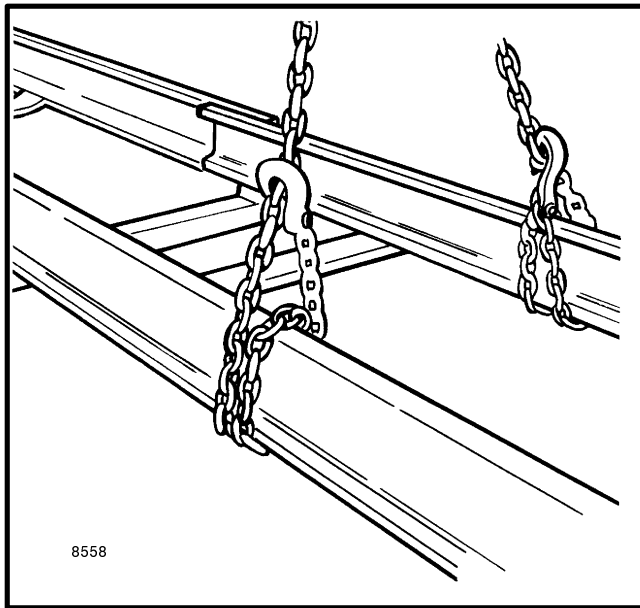

FIGURE 11. INNER WELDMENT
4. Slide the inner weldment half-way out of the intermediate weldment. Connect a lifting device to the center of the inner weldment. See FIGURE 11. Slide the inner weldment out of the intermediate weldment.
9. Slide the intermediate weldment half-way out of the top of the outer weldment. Connect a lifting device to the center of the intermediate weldment. See FIGURE 11. Slide the intermediate weldment out of the outer weldment until the stub shafts are in the notches of the outer weldment. Remove the intermediate weldment from the outer weldment.